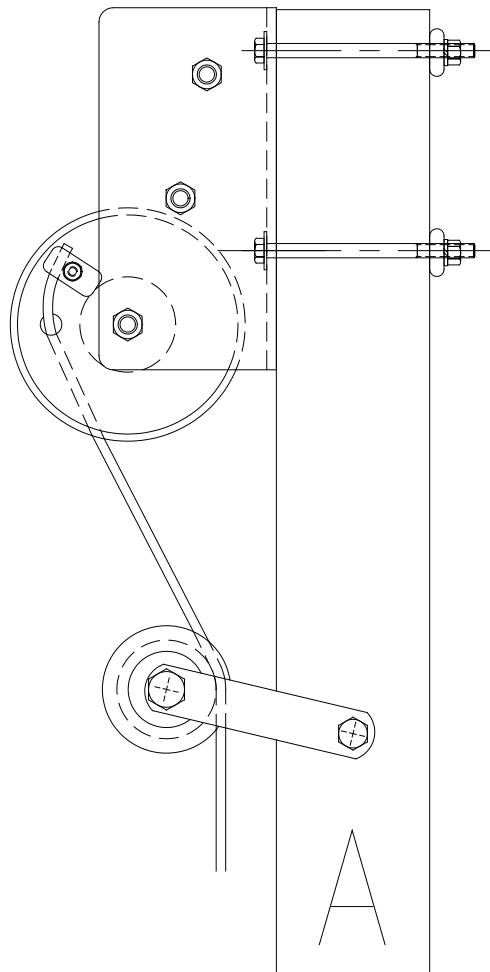

Figure 2-2.
1. Refer to Figure 2-2. Reeve the winch cable thru the idler sheave. Next from the front side of winch, reeve the cut end of cable between the winch drum flanges. Insert the cable thru the hole of winch drum flange as shown in Figure 2-6.